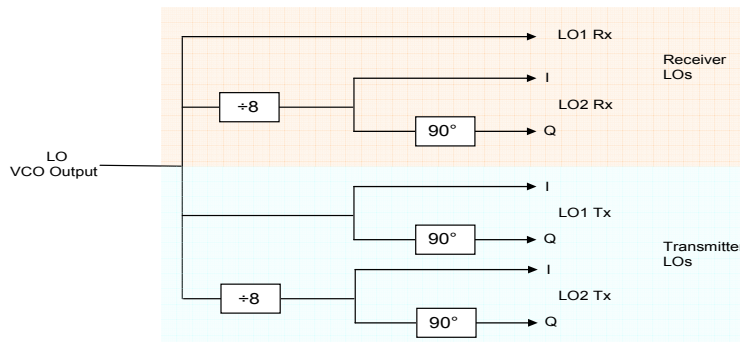

Figure 6: LO Generator
The output signal of the VCO is used as the input to the local oscillator (LO) generator stage, illustrated in Figure 6. The VCO frequency is subdivided and used in a series of up (down) conversions for transmission (reception).